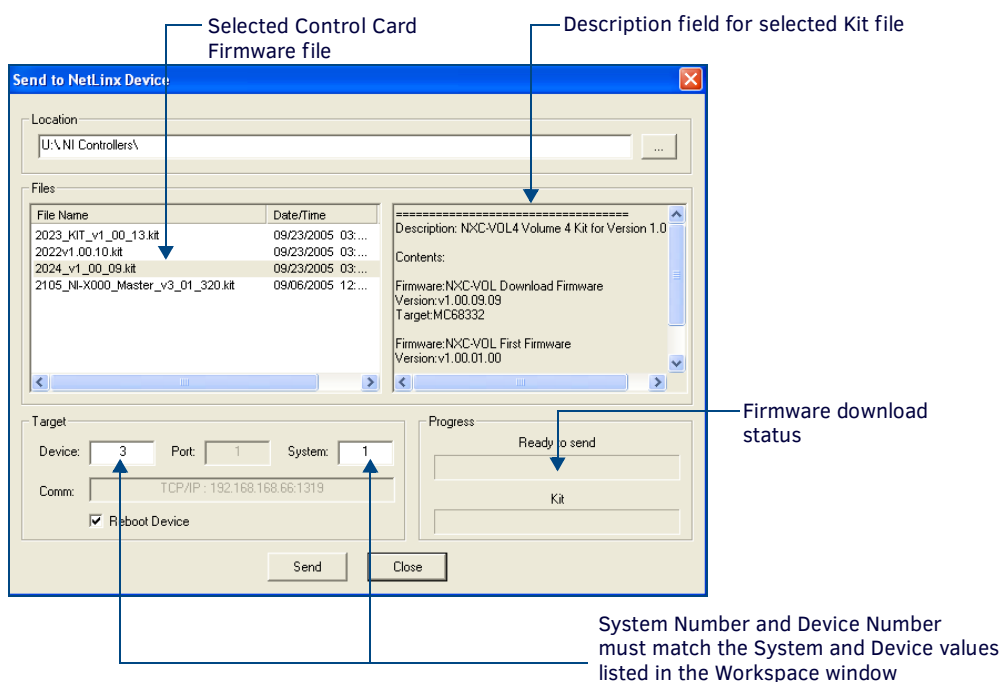

FIG. 31 Select Control Card firmware file for download page (via IP)
8. Select **Tools > Firmware Transfers > Send to NetLinx Device** from the Main menu to open the Send to NetLinx Device dialog (FIG. 31). Verify the target's **Device and System** numbers matches the value listed within the System folder in the Workspace window.
9. Select the Control Card's Kit file from the **Files** section (FIG. 31) (in our above example we chose to update the NXC-VOL4 card).
12. Click **Send** to begin the transfer. The file transfer progress is indicated on the bottom-right of the dialog (FIG. 31).